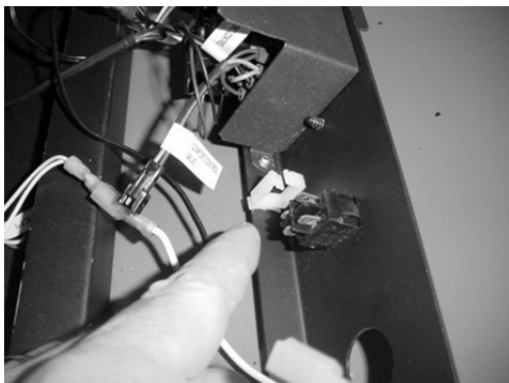
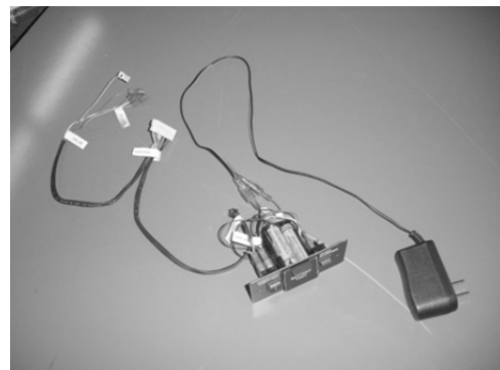

Figure 13
Figure 14
- 8 The control panel has plastic wire-locks attached to the back (see Figure 13). Un-hook the wires from the wire-locks and remove the wiring harness, plate, battery holder, and ac adapter (see Figure 14). These items may be discarded.